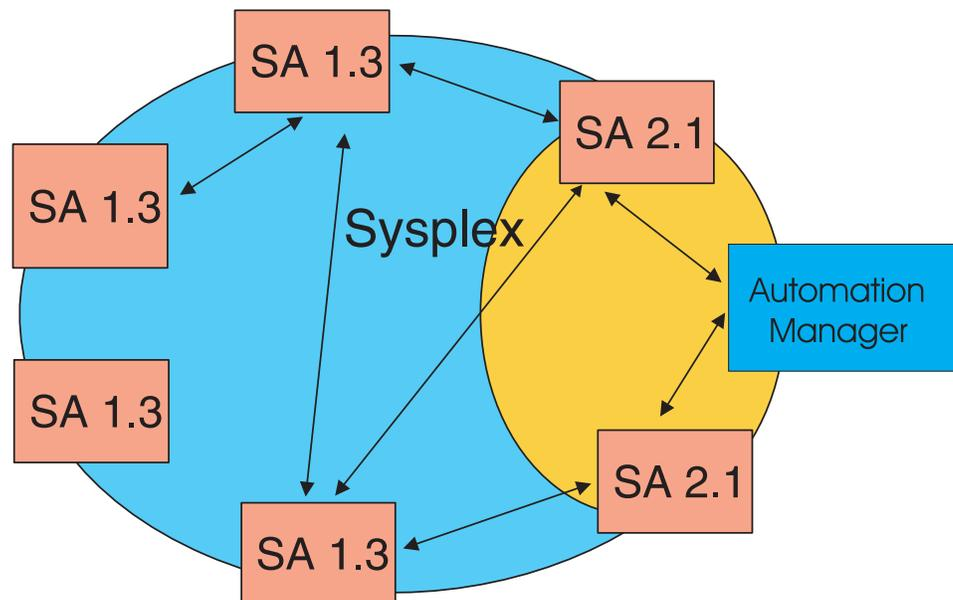

Figure 70. Coexistence of SA OS/390 1.3 and SA OS/390 2.1
- SA OS/390 2.1 systems can co-exist with SA OS/390 1.3 systems within the same sysplex. Figure 70 illustrates this: It shows a sysplex with six automated systems and a separate automation manager. Two of the automated systems are of SA OS/390 2.1 and four of them run with SA OS/390 1.3.